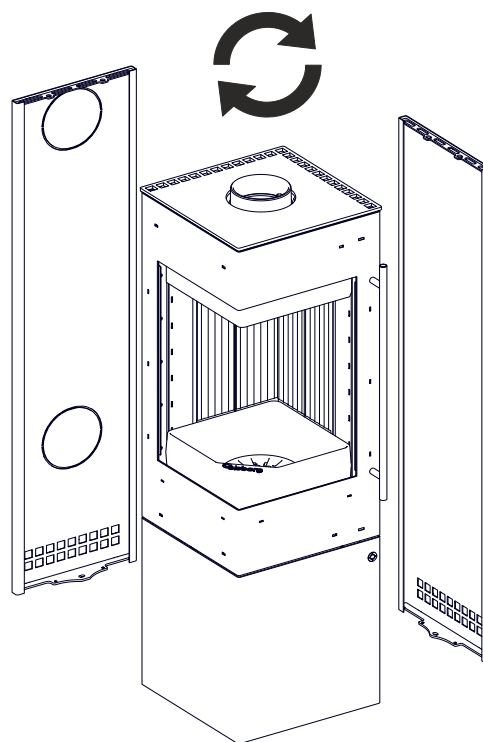

Fig.3
- Remove and swap back panel and side panel (see Fig.3+4).